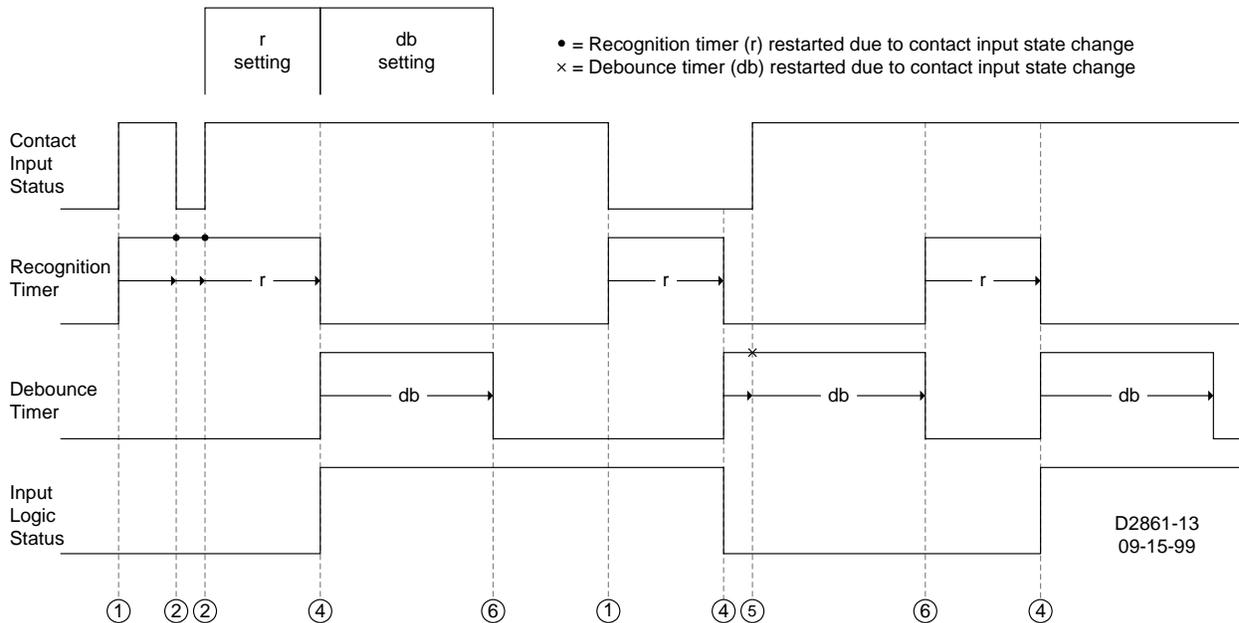

Figure 55. Recognition and Debounce Timer Operation
Recognition and debounce timer operation is illustrated in Figure 55 and summarized in the following numbered paragraphs. The paragraph numbers correspond to the callouts in Figure 55.
3. If the contact input status and input logic status matches when the recognition timer expires, then no action is required. (This occurrence is not illustrated in Figure 55.)
6. Go to (1) when the debounce timer expires.